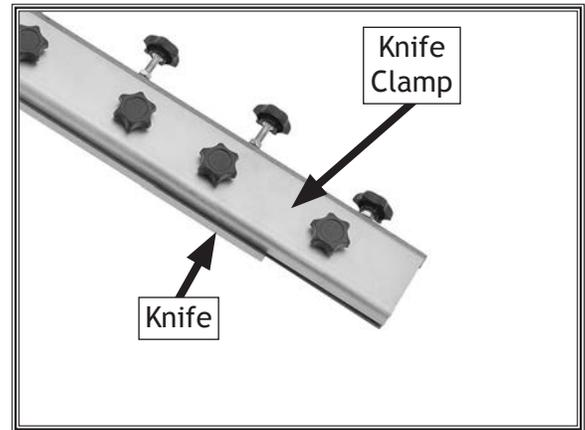

Figure 16. Knife clamped to slide bar.
8. When you are satisfied that knife extends beyond slide bar same amount along its length and that supporting adjustment screws are all making even contact with back of knife, re-tighten jam nuts and attach knife clamp to slide bar by hand-tightening five lock screws, shown in **Figure 16**.